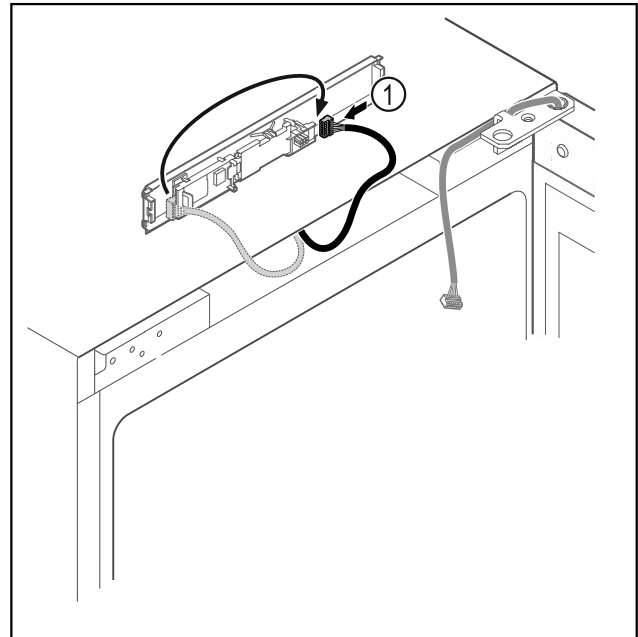

Fig. 20
- Connect the plug Fig. 20 (1) to the circuit board.